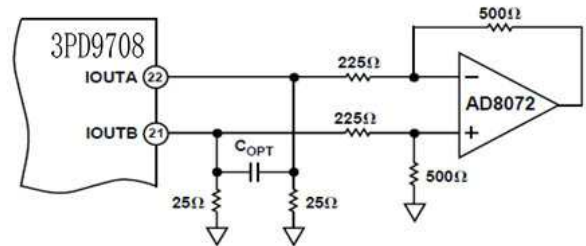

Figure 23. DC Differential Coupling Using an Op Amp
An op amp can also be used to perform a differential to single-ended conversion as shown in Figure 23. The 3PD9708(E) is configured with two equal load resistors, RLOAD, of 25 W. The differential voltage developed across IOUTA and IOUTB is converted to a single-ended signal via the differential op amp configuration. An optional capacitor can be installed across IOUTA and IOUTB forming a real pole in a low-pass filter. The addition of this capacitor also enhances the op amps distortion performance by preventing the DACs high slewing output from overloading the op amp's input.